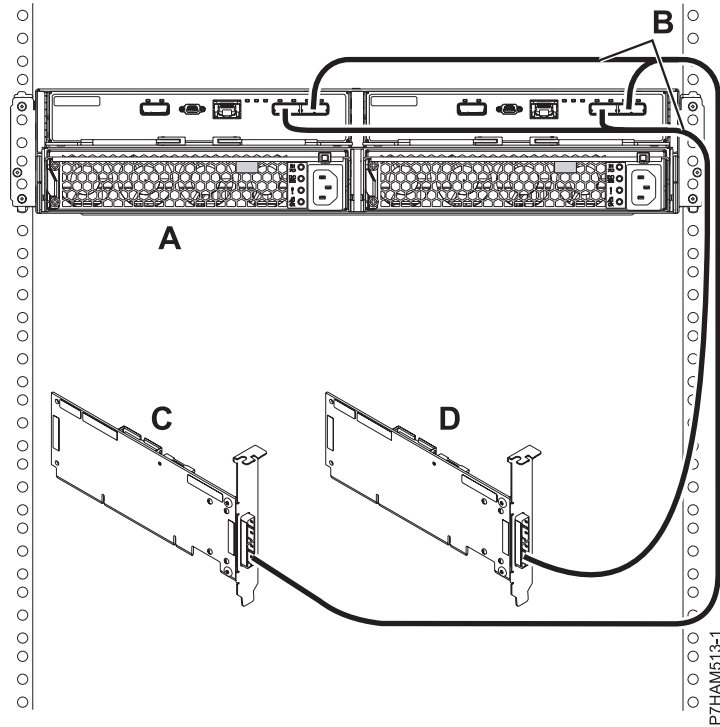

Figure 35. Mode 2 connection of one 5887 disk drive enclosure by using YO cables to two independent SAS adapters
- o. Perform the mode 2 connection of one 5887 disk drive enclosure (**A**) by using YO cables (**B**) to two independent SAS adapters as shown in Figure 35 on page 31.